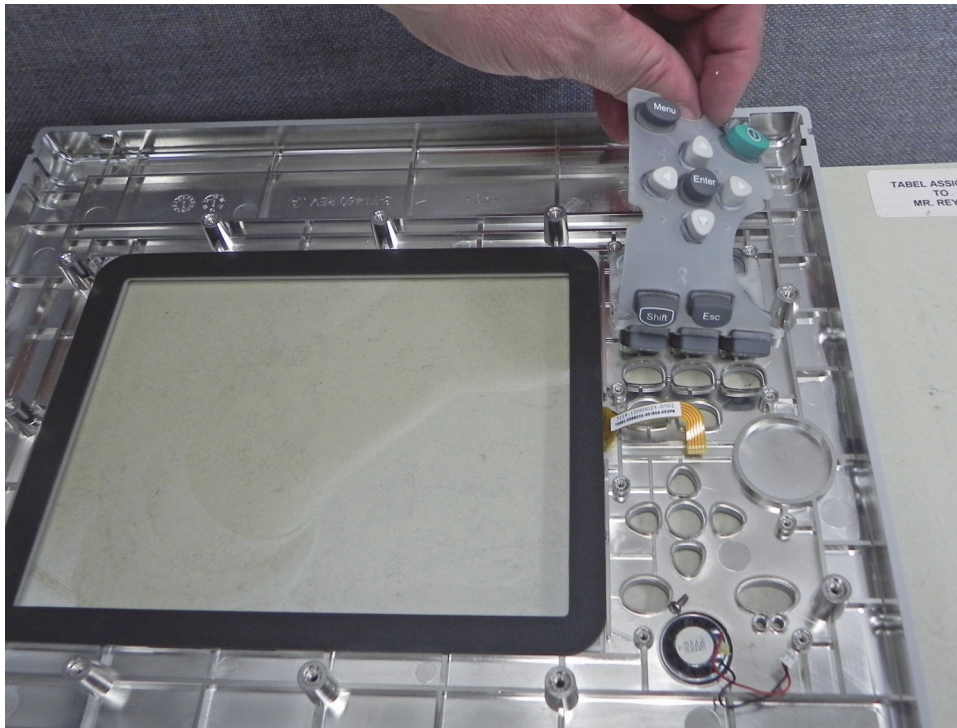

Figure 5-27. Remove Rubber Keypad Membrane
9. Peel up the rubber keypad membrane (Figure 5-27).